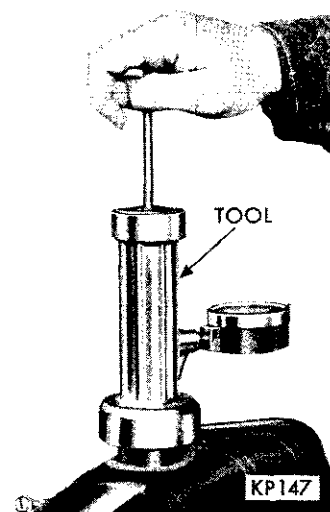

Fig. 7—Pressure Testing Cooling System
(1) With engine not running, wipe the radiator filler neck sealing seat clean. The water level should be 1/2 inch below neck of radiator.
(2) Attach the Tester Tool C-4080 to the radiator, as shown in (Fig. 7) and apply 15 pounds pressure. If the pressure drops inspect all points for external leaks.
(3) If there are no external leaks, after the gauge dial shows a drop in pressure, detach the tester, start engine and run the engine to operating temperature in order to open the thermostat and allow the coolant